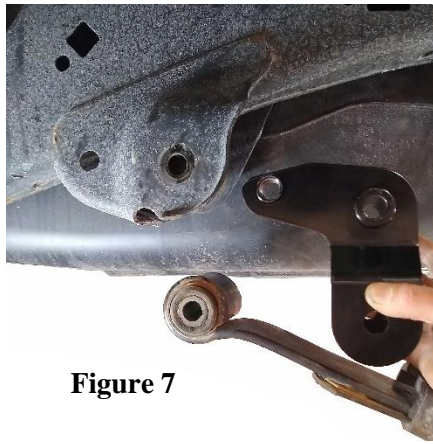

Figure 7
- 4) Install the QA1 front mounts to the factory front leaf spring mount using M18 x 2.5, 130mm long bolts with two washers per connection and M18 nyloc nuts. The smaller, forward-most hole will use M12 x 1.75, 30mm long hardware with oversized fender washers. (Figure 7 & 8)